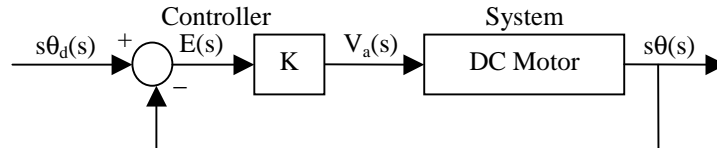

Figure 1: Proportional Closed Loop Motor Speed Control Diagram
Proportional closed loop control is depicted in Figure 1 where it is noted that the controller has knowledge of both the desired input and system output. Thus, the DC motor input voltage  $V_a(s)$  is varied based on the difference (error) between the desired speed  $s\theta_d(s)$  and actual speed  $s\theta(s)$ .
Closed loop control will be implemented and investigated through the approach shown in Figure 1 and discussed in the prelab.
1. Modify your open loop controller VI from last week so that it becomes proportional closed loop control with closed loop controller gain  $K$  as shown in Figure 1.